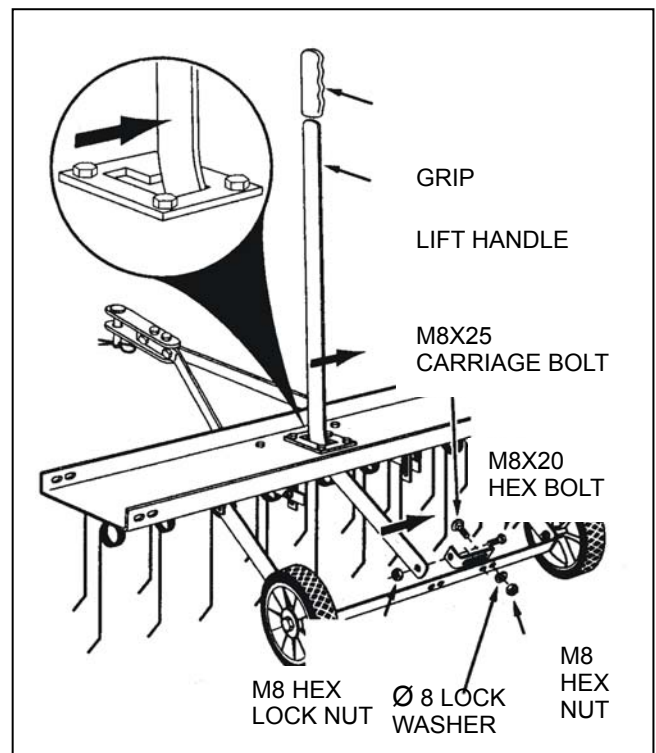

FIGURE 9
15. Assemble a hitch arm mount bracket to the axle bracket using two M8x25 carriage bolts, $\Phi 8$ lock washers and M8 hex nuts. Do not tighten yet. See figure 9.
16. Insert the lift handle down through the tine shield. Attach it to the just assembled hitch arm mount bracket using M8x20 hex bolt and a M8 hex lock nut. Tighten. See figure 9.
17. Position the hitch arm mount bracket so that there is side tension on the lift handle when it is locked in the up position. Tighten the nuts. See figure 9.